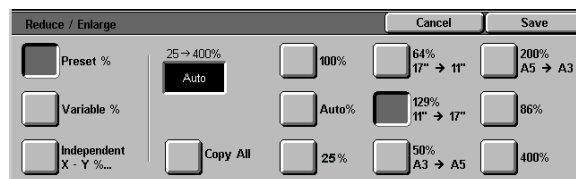

Figure 10: Reduce/Enlarge screen
- Touch **More...** to see additional options, as illustrated in Figure 10.